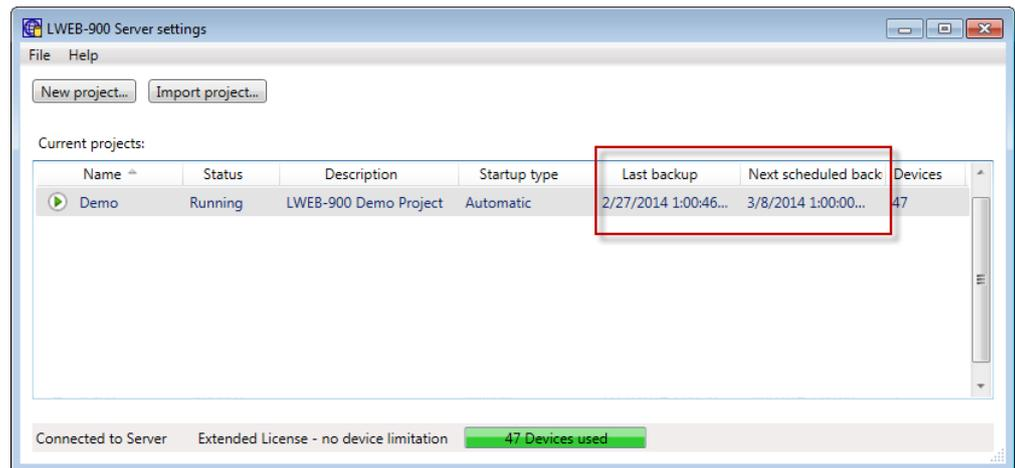

Figure 33: Last Backup and Next Scheduled Backup
- **Interval:** Definition of the backup schedule. Note, that the times of the last and the next scheduled backup are displayed in the project list (see Figure 33).